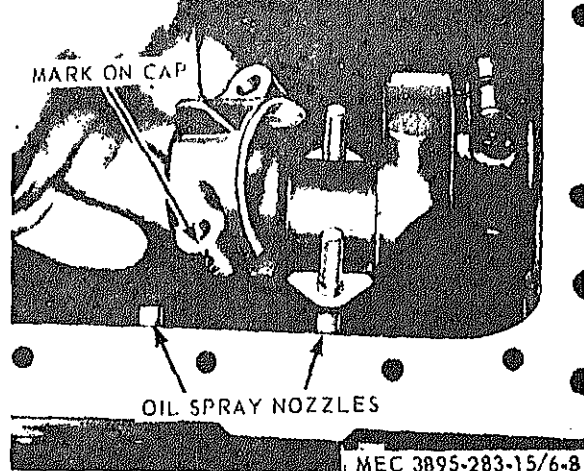

Figure 6-8. Piston and Connecting Rod Removal.
a. Removal (fig. 6-8).
(1) After removal of the oil pump, all of the connecting rod bolts will be accessible.
(2) Remove nuts and then tap ends of